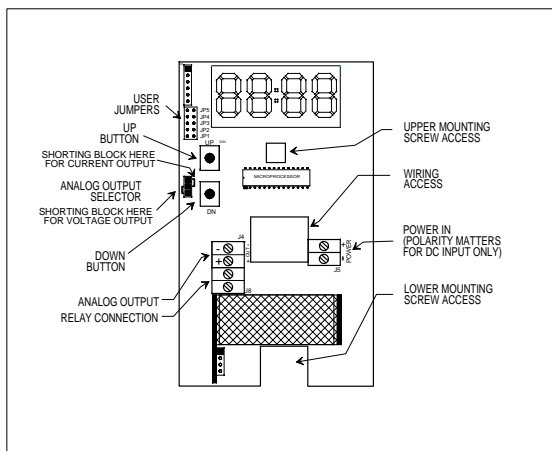

Figure 2: Model 310e Component Locations
The locations of controls and terminals on the main circuit board are shown in the Figure 2 on page 4.
The Model 310e will operate from an AC or DC input voltage between the values called out in the specifications on page 2. The power supply leads are connected to the two-terminal power connector shown in Figure 2.
When operating from DC power, the polarity of the power leads must be as shown in Figure 2. Reversed polarity connection will not damage the unit, but will make it inoperable until the connection is reversed.
The Model 310e provides either a 0 - 10 volt or a 4 - 20 mA current loop output at the two terminals of the analog output connector shown in Figure 2.
The type of analog output is determined by the setting of the analog output selector shown in Figure 2.
Note whether the shorting block at jumper JP5 is covering both pins or only a single pin, then borrow the shorting block and slide it over the two pins of jumper JP4 (see Figure 2). The display (if present) will show 'SEL'
1. **Note whether the shorting block at jumper JP5 is covering both pins or only a single pin**, then borrow the shorting block and slide it over the two pins of jumper JP4 (see Figure 2 on page 4). The display (if present) will show 'SEL'.
4. **Note whether the shorting block at jumper JP5 is covering both pins or only a single pin**, then borrow the shorting block and slide it over the two pins of jumper JP2 (see Figure 2 on page 4). Use the 'UP' and 'DOWN' buttons to change the concentration to the value just calculated.
2. If there is no display on the unit being calibrated, connect a current or volt meter to the analog output terminals. Check the setting of the analog output selector (see Figure 2 on page 4) to determine whether the unit is set for voltage or current output.
JP5 is covering both pins or only a single pin, then borrow the shorting block and slide it over both pins of jumper JP2 (see Figure 2 on page 4).
5. Use the 'UP' and 'DOWN' buttons (see Figure 2 on page 4) to adjust the reading.
The setpoint value is adjusted by closing jumper JP3 (see Figure 2 on page 4). If the display is present when JP3 is closed it will show the current high limit setpoint in ppm CO₂.